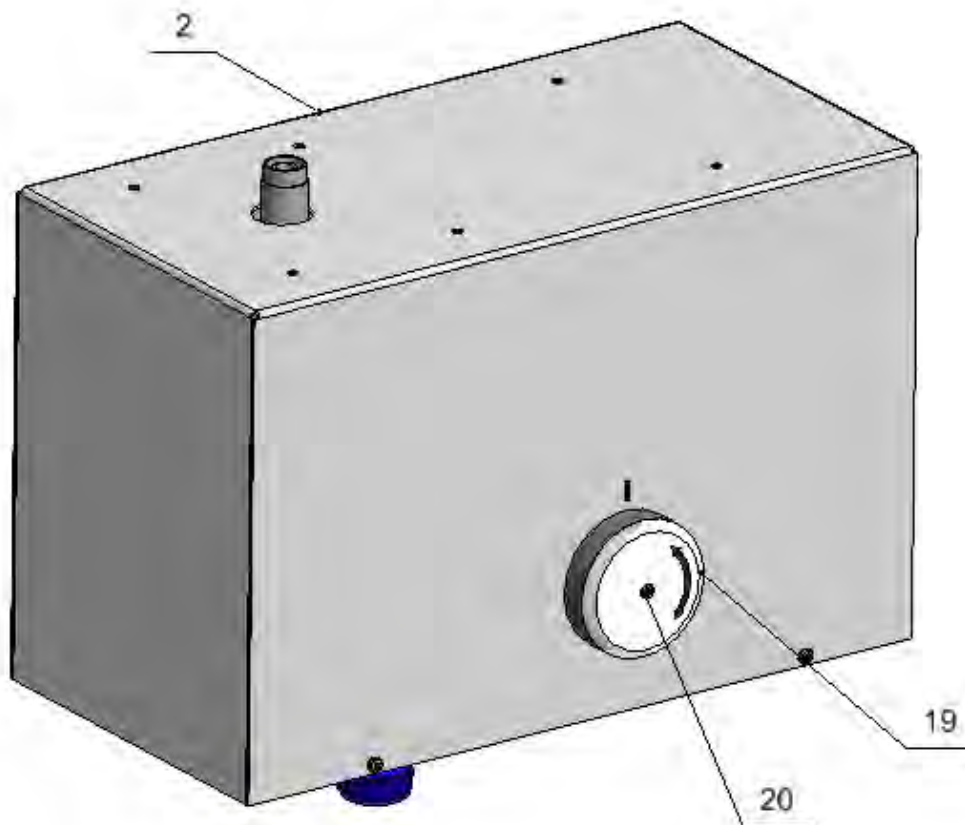

Fig. 6
23. Apply and screw a housing (2). (Fig. 6)
24. Install knob (19) so as maximum load marked on a knob correspond to marking on a housing. Use M4x30 screw to fix the knob. (Fig. 6)